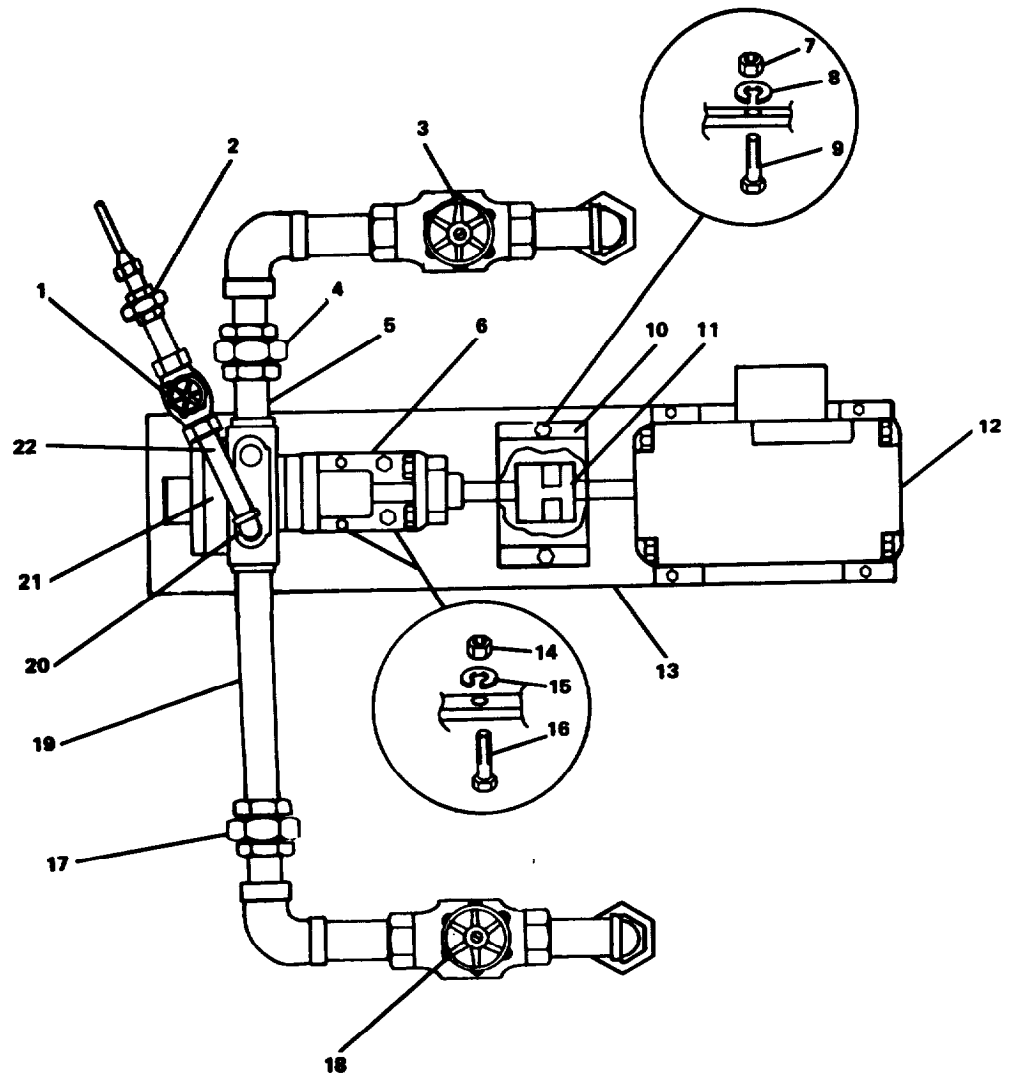

FIGURE 2-88. Rotary Pump Unit (Dirty Lubricate Oil).
**2-107. Replace/Repair Rotary Pump Unit (Dirty Lubricate Oil). (FIGURE 2-88)**